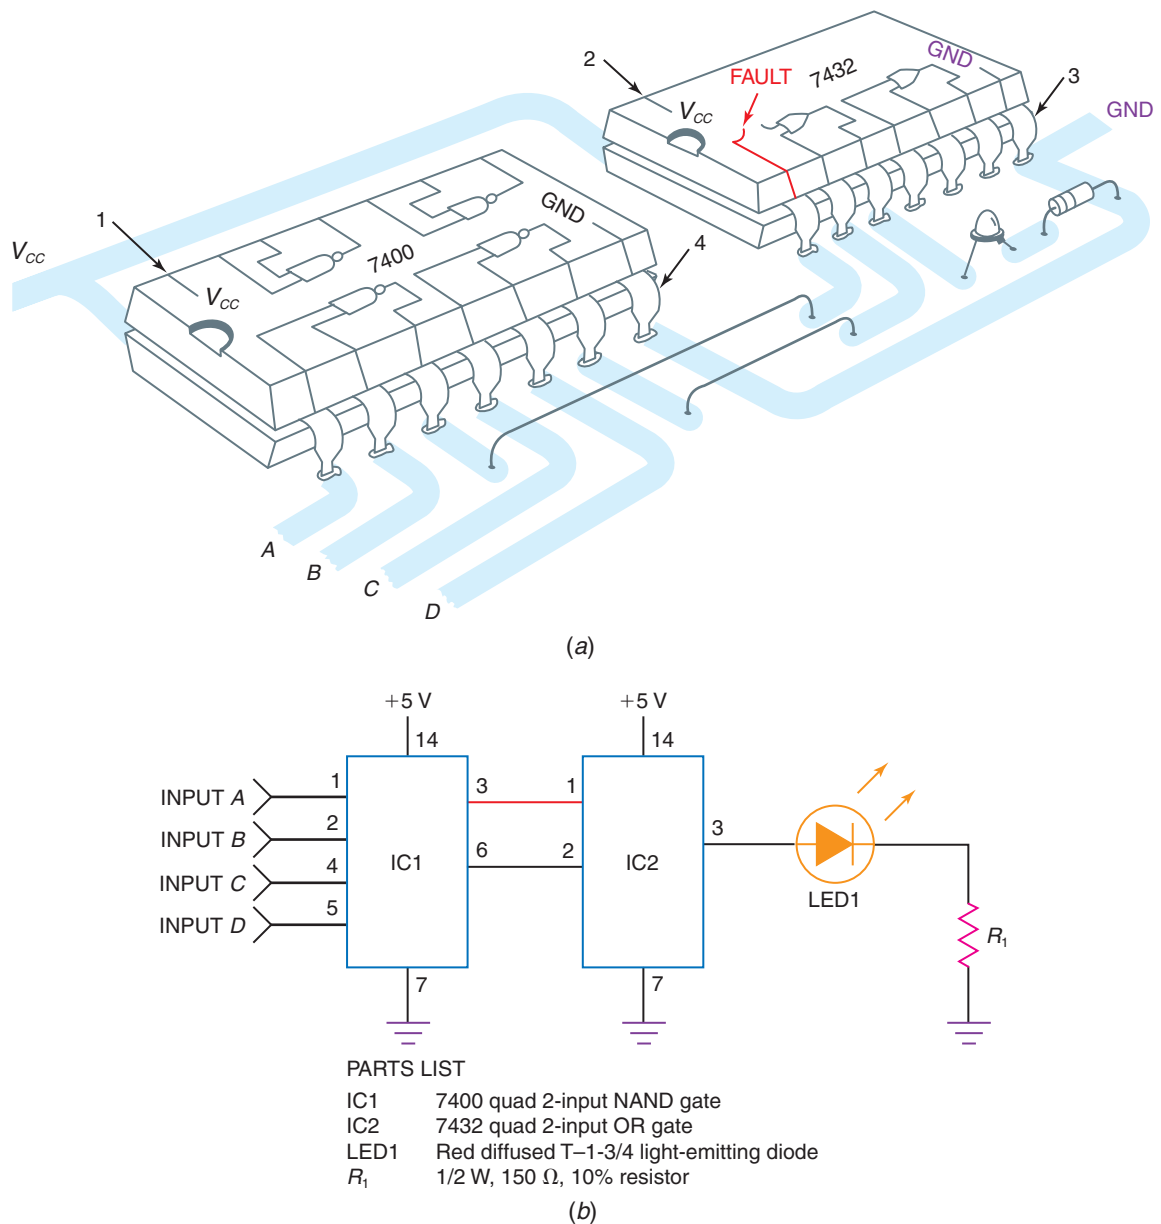

Fig. 5-42 Troubleshooting problem. (a) Testing a faulty circuit mounted on a PC board. (b) Schematic diagram of four-input NAND circuit.
Consider the combinational logic circuit mounted on a printed circuit board in Fig. 5-42(a). The equipment manual might include
a schematic similar to the one shown in Fig. 5-42(b). Look at the circuit and schematic and determine the logic diagram. From that you can determine the Boolean expression and truth table. You will find that in this example, two NAND gates are feeding an OR gate. This is equivalent to the four-input NAND function.
The fault in the circuit in Fig. 5-42(a) is shown as an open circuit in the input to the OR gate. Now let's troubleshoot the circuit to see how we find this fault.
2. Test nodes 1 and 2 (see Fig. 5-42(a)).
85. Refer to Fig. 5-42. With inputs *A*, *B*, *C*, and *D* all HIGH, the output (pin 3 of IC2) should be _____ (HIGH, LOW).